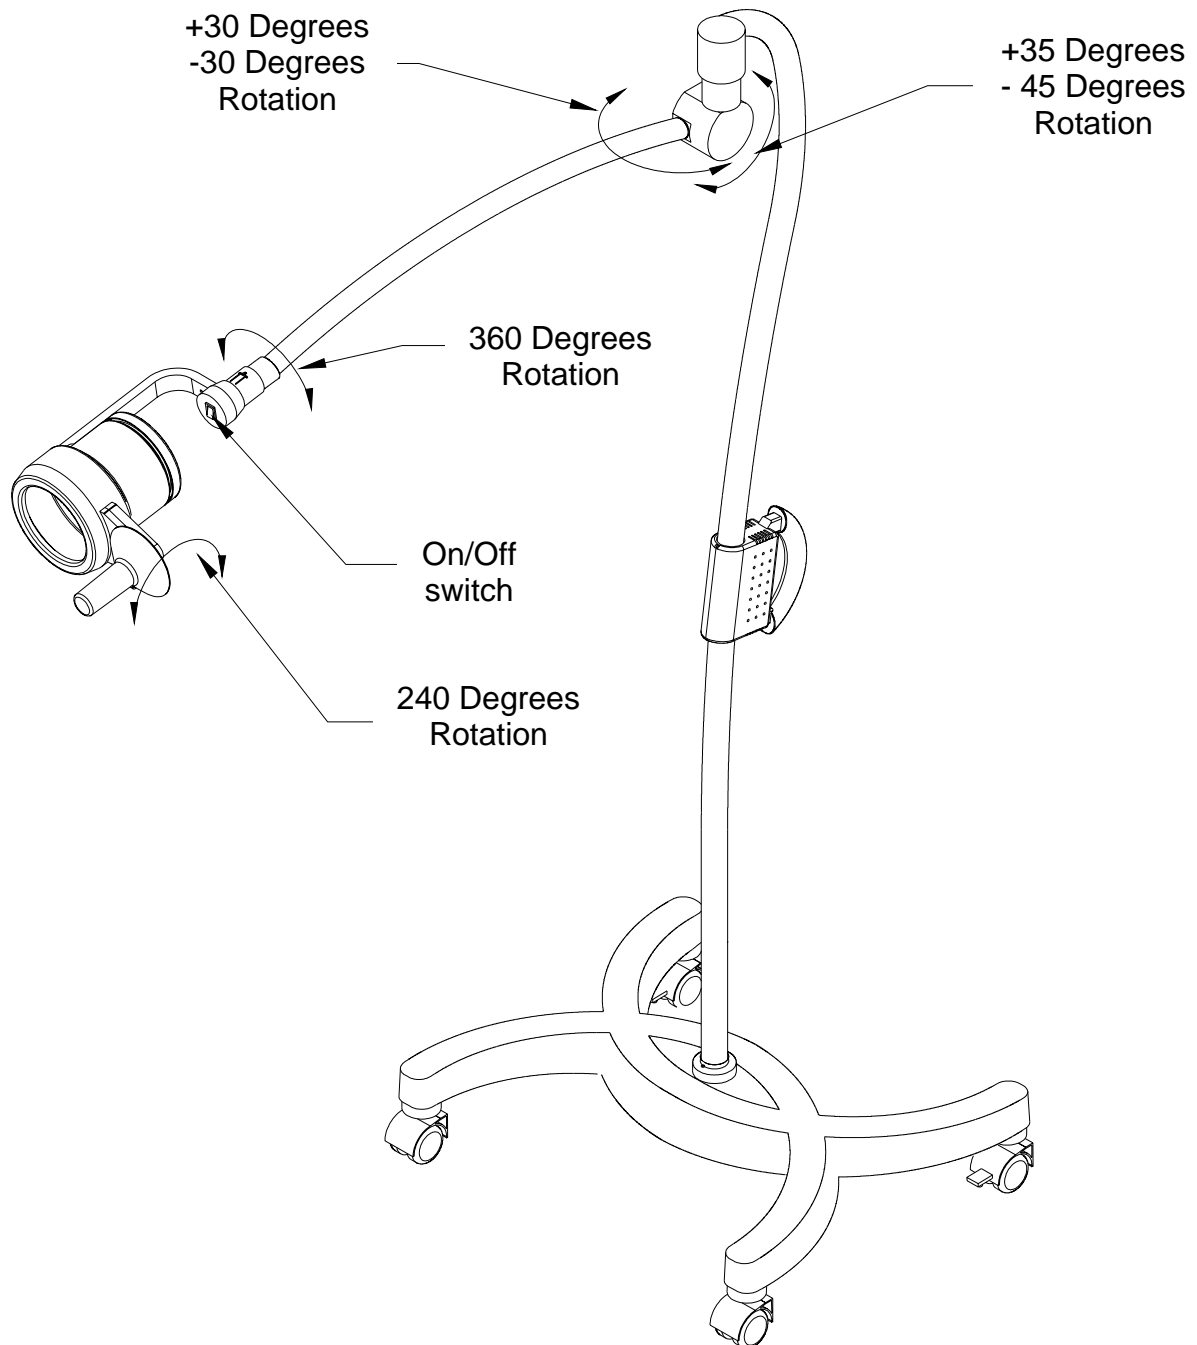

Figure 5: Centry O.B. Head and Arm Movements
- To install the bulb and lamp holder pull off the rear cover from the light head as shown in Section 6, figure 5.
- To position the light head and arm, firmly grasp the sterilizable handle and move the light head or arm to the desired location. (See Figure 5 for arm and head movements).
- On/off: To turn the light On or Off, depress the On/Off switch located at the bottom of the yoke fitting (Refer to Figure 5 for switch location).